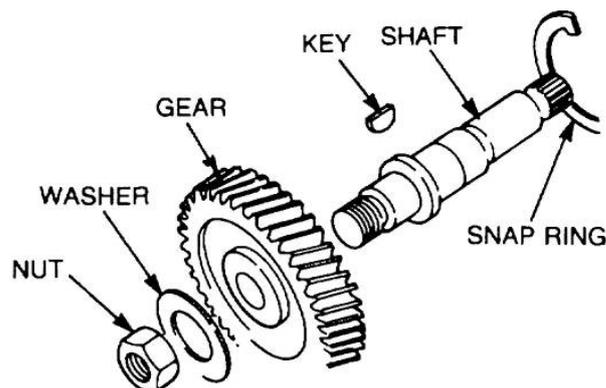

Figure 147 Removal of the Drive Gear
- g. Remove the nut and washer securing the oil pump drive gear to the shaft. Remove the drive gear from the shaft (Figure 147).